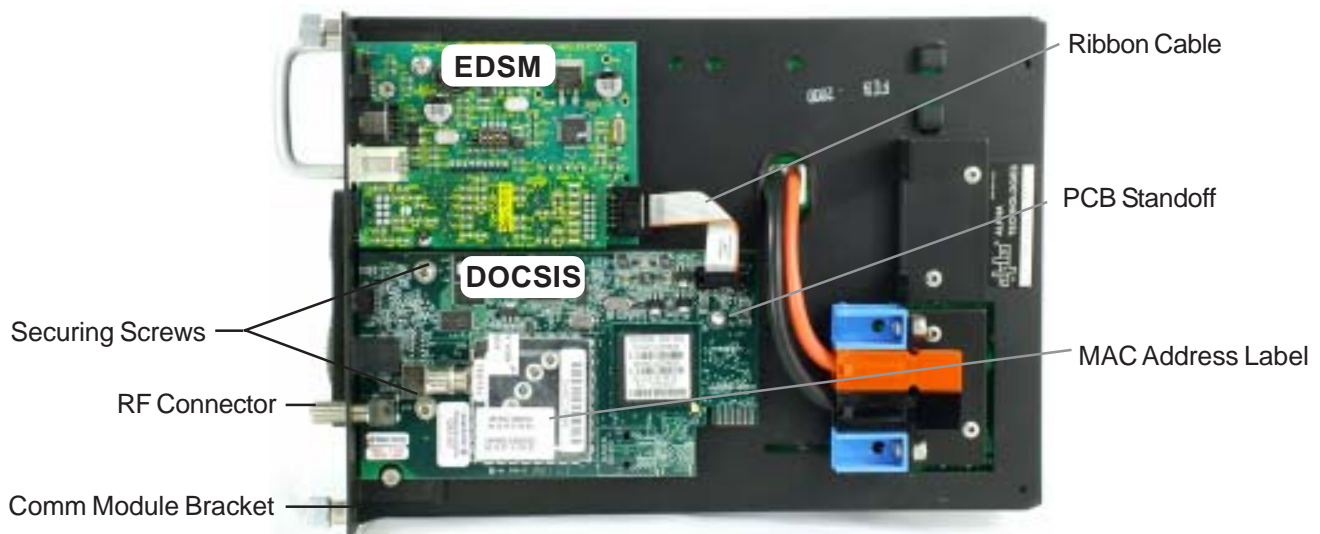

Fig. 2-3, Transponder Components
6. Verify that the MAC address label is installed on the transponder. If the label is missing, locate the label in the packaging and apply to the transponder as shown in Fig 2-3.
7. Place the transponder as shown in Fig 2-3 below. The RF connector must be inserted through the front of the Comm Module bracket.